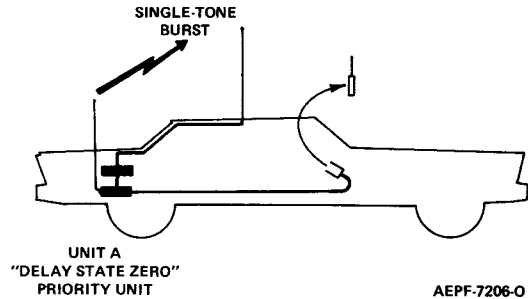

Figure 4.
b. Arrival of First Vehicle (Refer to Figure 4)